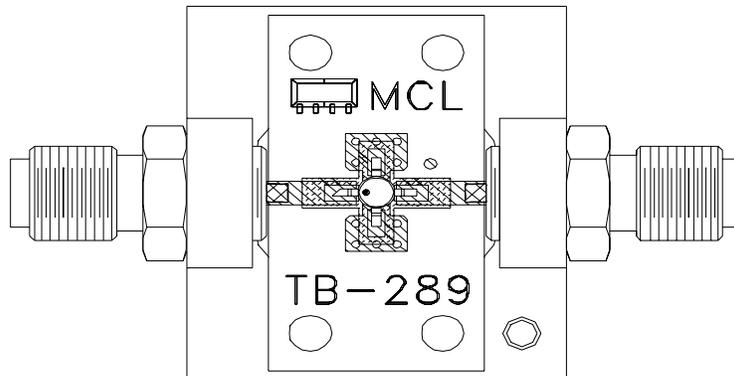
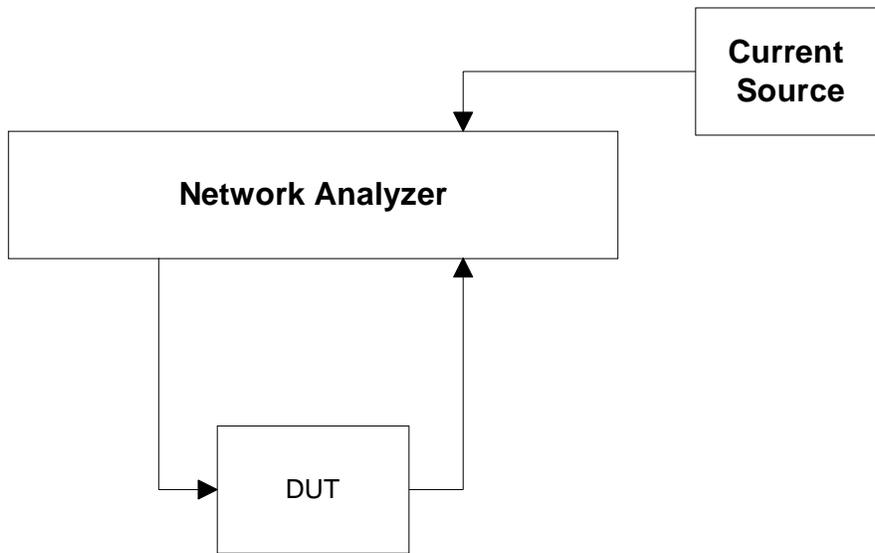
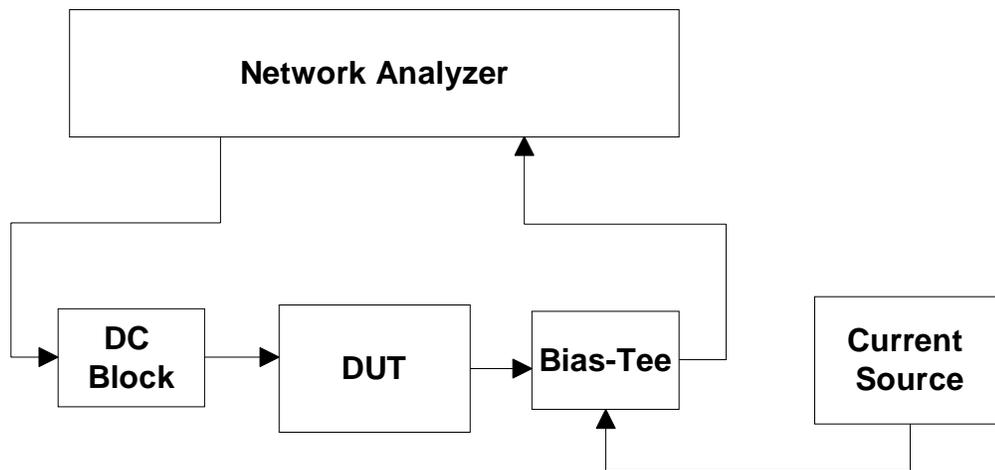

Figure 3 Layout of Test Board TB-289
Figure 4 Test Setup for Using Test Board TB-289
Figure 5 Alternative Test Setup for Using Test Board TB-289
This Test Board has a PC board with 50-ohm input and output lines and an ERA-SM unit soldered onto it, mounted on a metal frame. Input and output connections are by means of SMA connectors. Figure 3 shows the layout. To test this, the user needs to add a DC Block at input and a Bias-Tee at output, external to TB-289. Modern network analyzers such as Agilent 8753 and 2-port PNA have these components built in. Using the procedure in 3.1.1, a fixed DC current from a current source is applied through the Network Analyzer DC port. The measured gain of the DUT in this set up is what is published in the Mini-Circuits catalog. See Figure 4 for the test set up using the Network Analyzer's DC block and Bias-Tee. Figure 5 shows an alternative test set up using a DC Block (such as Mini-Circuits BLK-18) and Bias-Tee (such as Mini-Circuits ZFBT-6G): the procedure in 3.1.2 appli
3.1.1 Where the setup uses the Network Analyzer's DC Block and Bias Tee (see Figure 4):
3.1.2 Where the setup uses external DC Block and Bias Tee (see Figure 5):